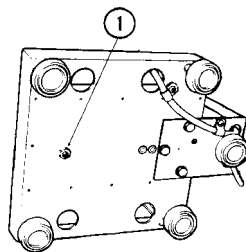

Figure 2
- 2) Place the 3025 on four stands to elevate the scale expose the Load Cell overload stop. The Load Cell overload stop is shown as Item 1 in Figure 2. Remove the platter. Turn the platter upside down and place it back on the sub-platter. this will allow adjustment of the overload stops with the platter on the scale.
- 7) Adjust the Load Cell overload stop (shown as Item 1 in Figure 2) to stop the weight display from increasing in weight at approximately 110% of calibrated scale capacity. This is best done by: